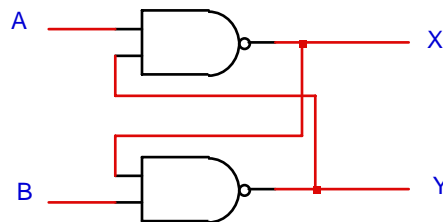

Figure 2
a) **Do5:** For the circuit of Figure 2, set up a transition table summarizing the operation of the circuit. This table shows all possible “current” value combinations for *A*, *B*, *X*, and *Y* in a truth table, and also shows the resulting “next” values for *X* and *Y*.